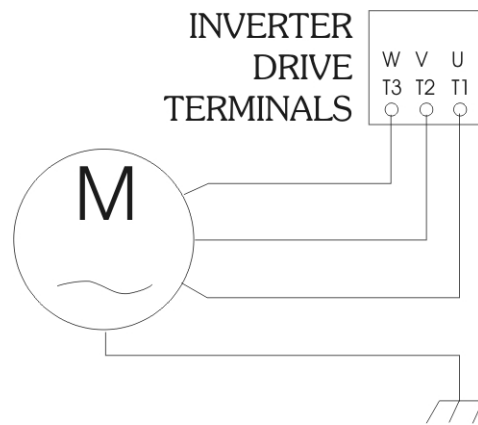

Figure 4.21: Inverter Drive to Motor Detail
8. Cylinder rotation must be counter-clockwise in the extract step. If rotation is not correct, disconnect the power to the machine. A qualified technician must reverse any two leads between the AC drive and the motor. See figure 4.21 on page 33.